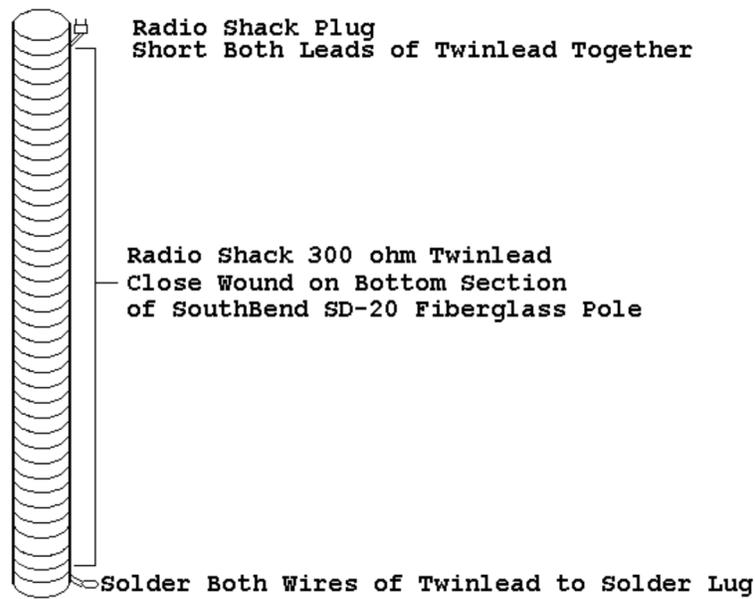

Figure 3
The ground bus is a circle of bare copper wire. The antenna radials and feedline are attached with alligator clips. See Figure 3.
9. Strip the wire and install the 300 ohm in-line socket at the top of the end of the loading coil, making sure that you short the two leads together. For durability the wire conductors should be folded back upon themselves several times and twisted before tinning. Miniature solder cups are another alternative. Fix the terminal screws in place with Loctite or clear nail polish. Note that an unbroken twinlead coil and radiator is also an option, as is terminating the top of the coil with an Alligator clip and using it to connect to a single radiator wire. See Figure 3.